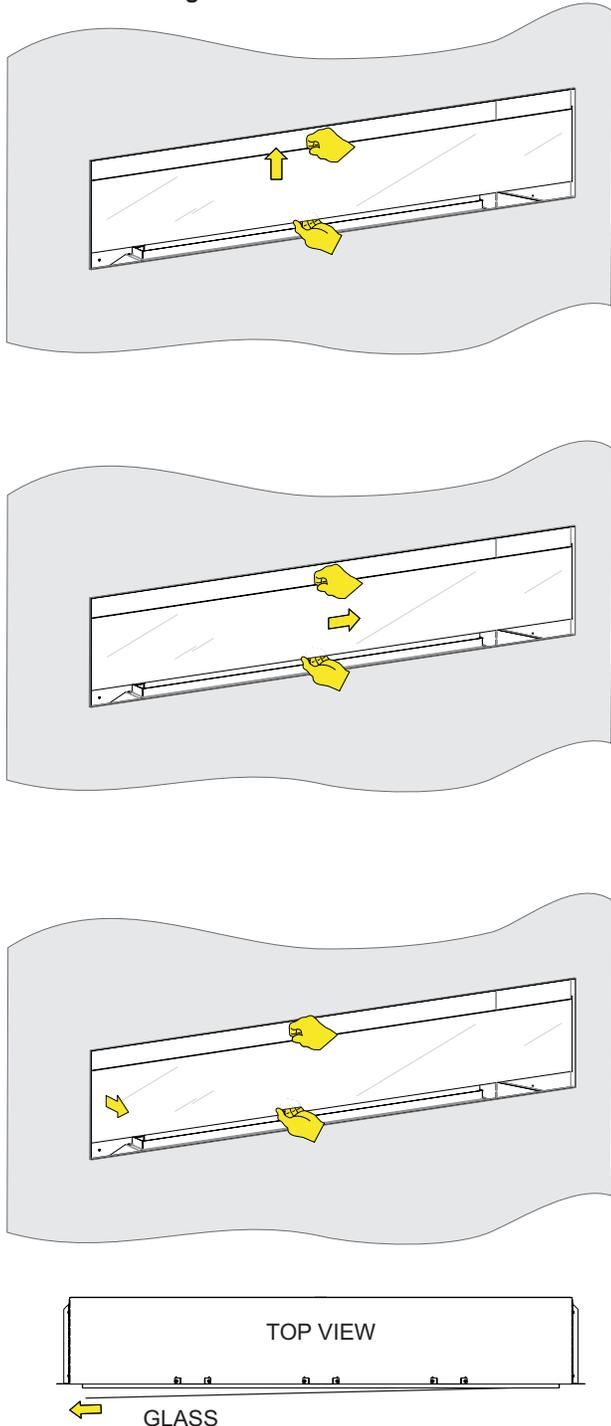

Figure 1
1. If applicable, remove the glass front. Lift the glass front up, slide it to the right, and then carefully angle left side out of the slots. See Figure 1.
Refer to Figure 1 for the following warning.
Log Placement - Figure 1